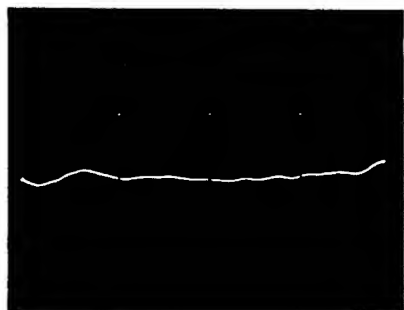

Figure 4-15. Typical Display
- h. Adjust RF Plug-in POWER LEVEL control and oscilloscope controls for display similar to typical display shown in Figure 4-15.